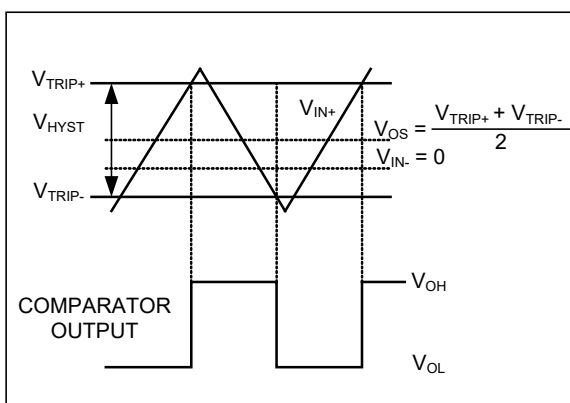

Figure 1. Input and Output Waveform,
3. V_{OS} is defined as the center of the input-referred hysteresis zone. See Figure 1.
4. The input-referred trip points are the extremities of the differential input voltage required to make the comparator output change state. The difference between the upper and lower trip points is equal to the width of the input-referred hysteresis zone. See Figure 1.
The hysteresis in a comparator creates two trip points: one for the rising input voltage and one for the falling input voltage (Figure 1). The difference between the trip points is the hysteresis. The average of the trip points is the offset voltage. When the comparator's input voltages are equal, the hysteresis effectively causes one comparator input voltage to move quickly past the other, thus taking the input out of the region where oscillation occurs. Standard comparators require hysteresis to be added with external resistors. The SGM8748's fixed internal hysteresis eliminates these resistors. To increase hysteresis and noise margin even more, add positive feedback with two resistors as a voltage divider from the output to the non-inverting input.
Figure 1 illustrates the case where $IN-$ is fixed and $IN+$ is varied. If the inputs were reversed, the figure would look the same, except the output would be inverted.